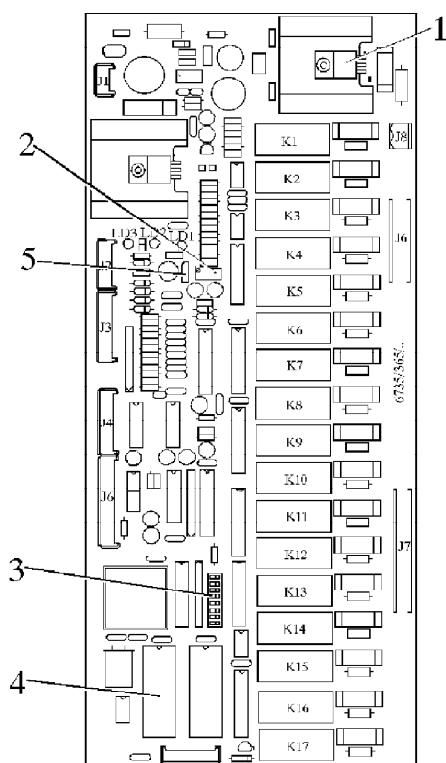

Figure 18
The centre of the control board (see Figure 18) houses a bank of minidips (3), allowing the board to be configured for use on the various versions and in the different countries, and a jumper (5) allowing the board to be configured for Instant and Espresso models.
RELAY FUNCTION (see Figure 18 and Wiring diagram legend)